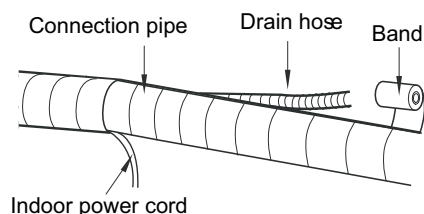

Fig.15
- (2) Reserve a certain length of drain hose and power cord for installation when binding them. When binding to a certain degree, separate the indoor power and then separate the drain hose.(As show in Fig.15)
- (3) Bind them evenly.
- (4) The liquid pipe and gas pipe should be bound separately at the end.